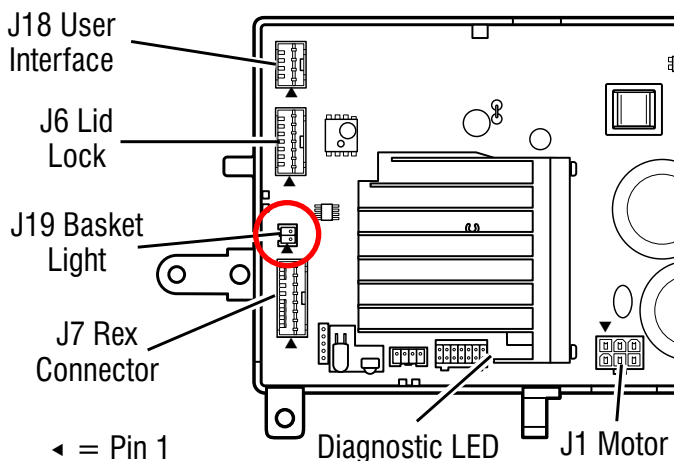

Figure 1
5. Disconnect the Basket Light connector "J19" from the Main Control and feed the Basket Light harness through opening in back of washer top panel (see Figure 1).